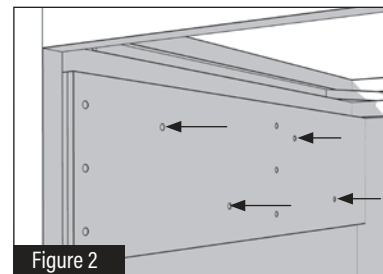

Figure 2
2 Using the 4 Spacer Mounting Holes attach in place with (4) black #8 screws (Fig. 2).